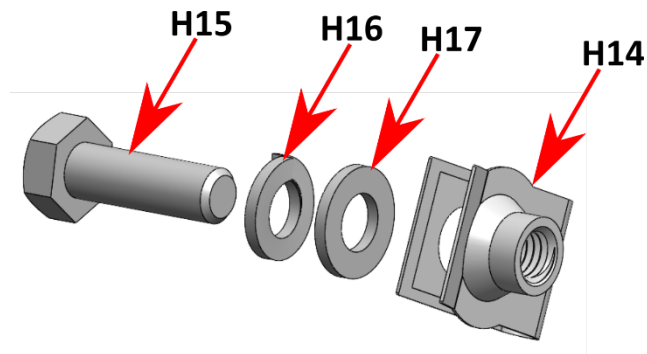

Figure 22- Front Horn Bracket "Optional" Hardware Stacking
- a. ALTERNATE: Slide H14 onto the frame rail lower mounting point (REF. above Fig. 22 BLUE Section).